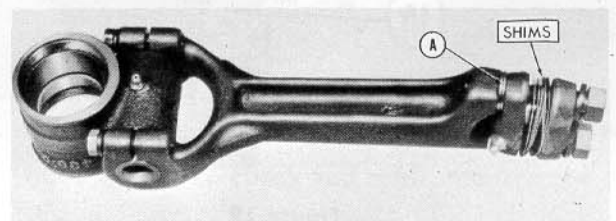
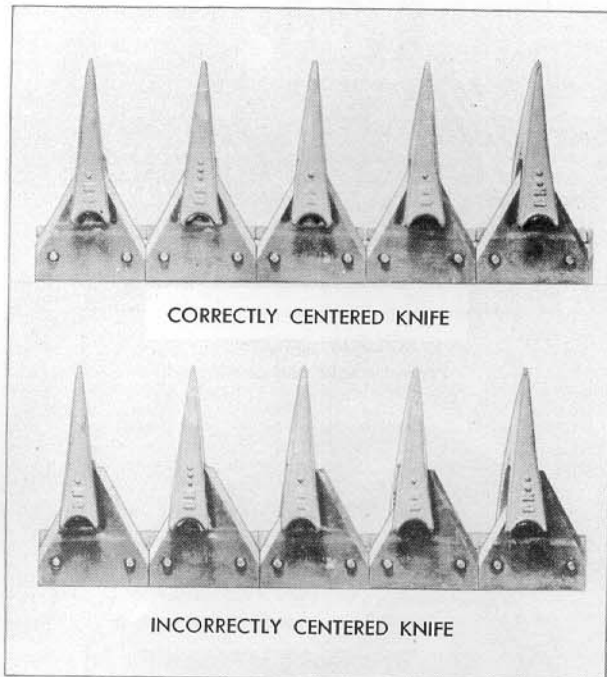

Figure 22
Figure 23
5. **Pitman Rod Socket Joint:** Adjust for wear on sickle head ball by removing metal shims from between halves of joint. See Figure 22. This joint must be carefully adjusted. If it is too tight, it will quickly overheat and also will tend to lift sickle head vertically. If too loose, breakage may result.
6. **Sickle Register:** When pitman rod is at extreme end of its stroke, sickle sections should center in sickle guards. See Figure 23. Adjust for proper register by adding or removing washers from between pitman rod yoke. See (A), Figure 22.